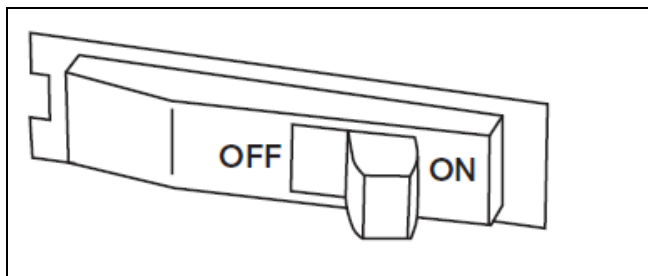

Figure 64
1. Restore power with the breaker. See Figure 64.